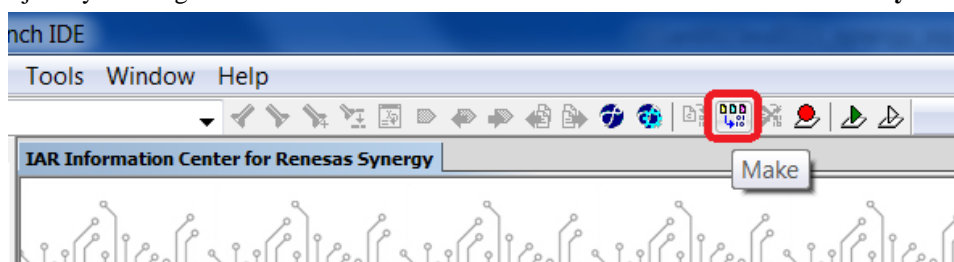

Figure 1.11 Build button
6. The project should resemble the folder structure as shown in Figure 1.11.